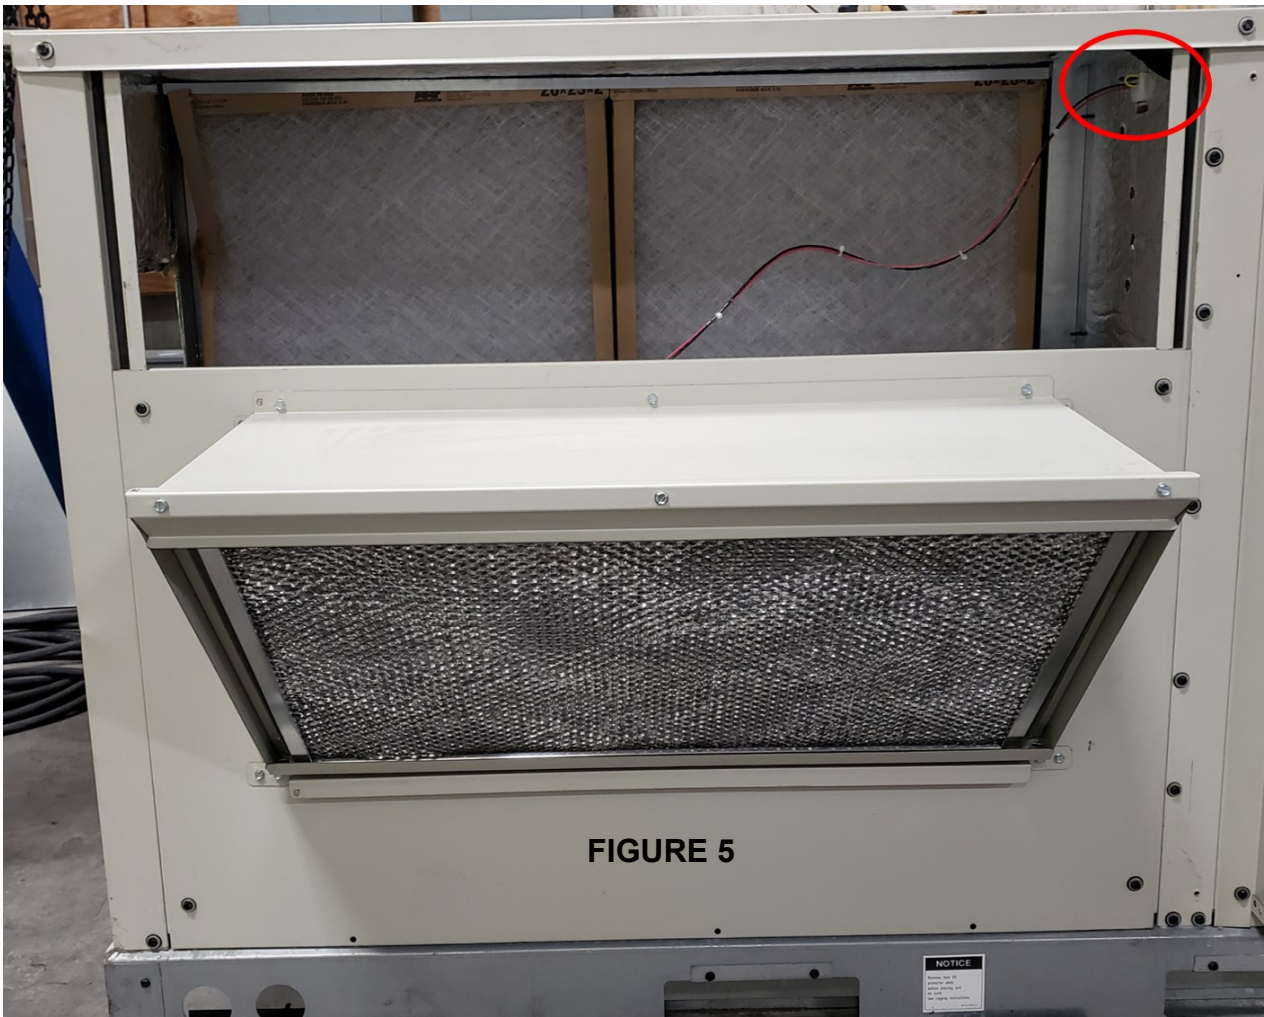

FIGURE 5
8. Remove the jumper plug from the RTU and plug in the damper harness, as circled in Figure 5 (Tape the jumper plug inside the unit for future use in case the damper must be disconnected). Tie wrap damper harness so that it does not interfere with air filter replacement.